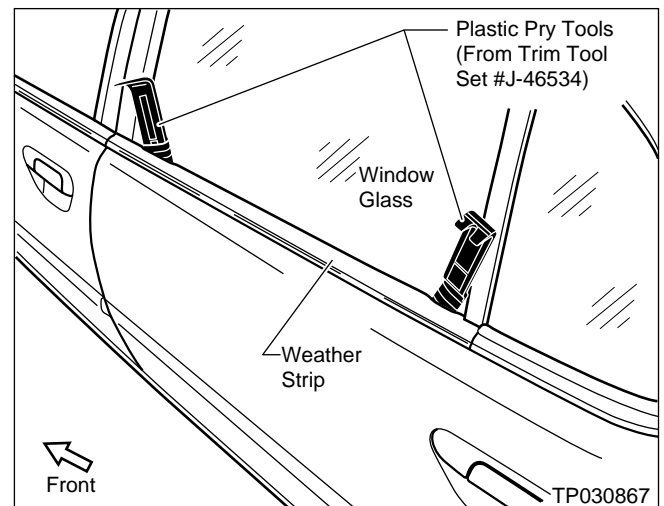

Figure 18
- Carefully insert the Plastic Pry Tools between the Window Glass and Weather Strip (see Figure 18).